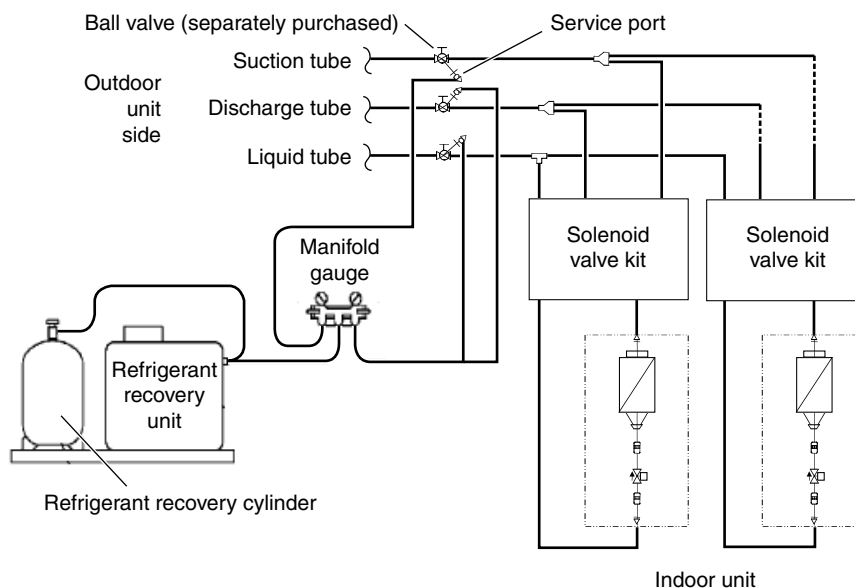

Fig. 8
- (1) If a ball valve with a service port has been provided in the indoor unit as shown in Fig. 8, follow the instructions given in (2) through (6) below. If the service port is instead located in the outdoor side, follow the instructions in "5-2-3. Refrigerant recovery procedures (2)."
- (2) After running the unit in Cooling mode for about 5 minutes as described in "5-2-1. Cooling operation (for all units)," fully close the discharge line, the liquid line ball valve, and indoor unit ball valve.
- (3) Run the unit in Cooling mode for 10 to 20 minutes more.
- (4) Fully close the suction line ball valve, and stop the operation of all units.
- (5) Use hoses to connect the manifold gauge valves, refrigerant recovery unit, and refrigerant recovery cylinder with each other. (Fig. 8) Do each connection quickly to prevent air from entering the tubing.